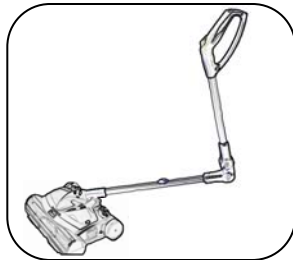

Fig. 11
- To sweep under furniture, press the handle release button and apply pressure in order to bend the sweeper's handle forward. The top forward folding pivot will release from the locked position for increased range of motion, allowing you to easily reach under sofas, beds, and chairs. (Fig. 11)